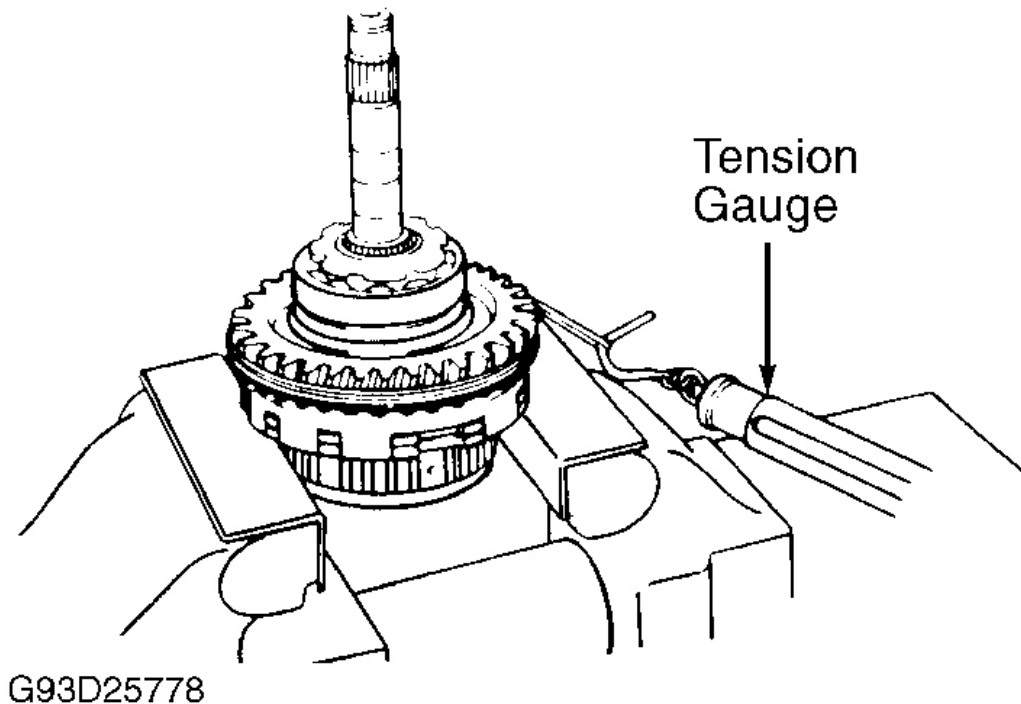

Fig. 45: Checking Counter Drive Gear Preload
2. Check counter drive gear preload. Hold overdrive planetary gear in a soft-jawed vise. **DO NOT** let counter drive gear touch the vise. Using a tension gauge, measure preload. See **Fig. 45** . Turn counter drive gear right and left several times before measuring preload. Preload at starting point should be 2.1-3.4 lbs. (.95-1.54 kg).